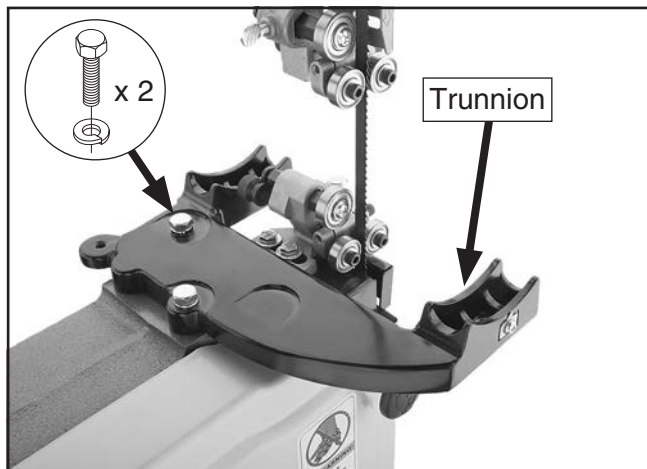

Figure 15. Trunnion installed (table removed for clarity).
10. Rotate the table so that the table slot faces to the right, then position the table trunnion on the bandsaw, as shown in **Figure 15**, and secure it with (2) $\frac{5}{16}$ "-18 x $1\frac{1}{4}$ " hex bolts and (2) $\frac{5}{16}$ " lock washers.